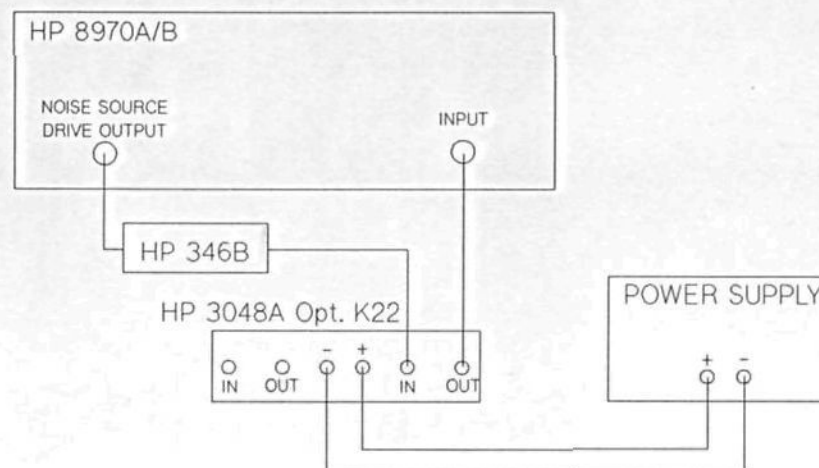

Figure 3-2. Gain/Noise Figure Measurement
7. When the HP 8970A/B finishes its calibration routine connect the equipment up as shown in figure 3-2.